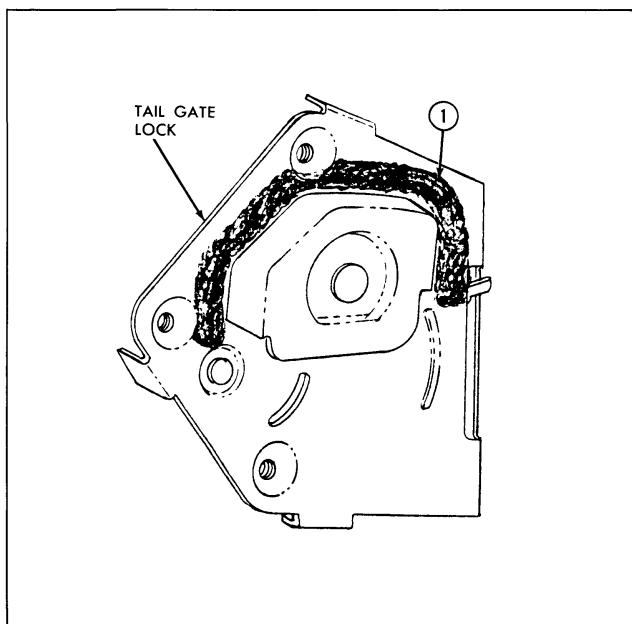

Fig. 5-18 Tail Gate Lock Sealing
5. To install tail gate lock, reverse removal procedure. Prior to installing lock tail gate, apply a bead of body caulking compound to lock frame along the joint of the lock bolt housing (1 in Fig. 5-18).